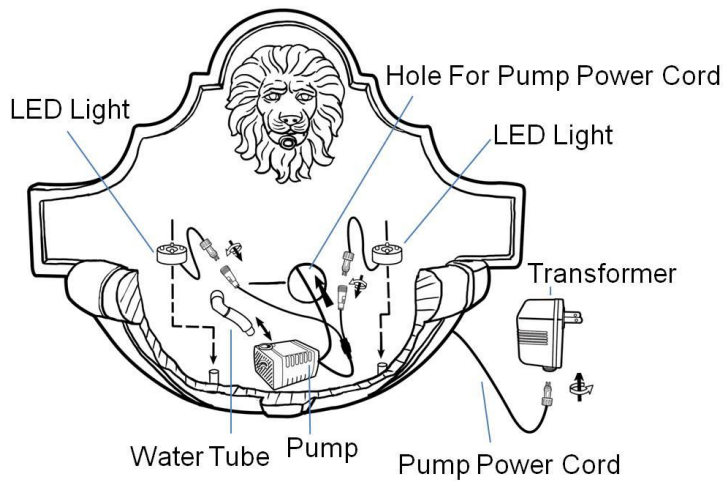

Fig. 1
3. Through the pump power cord out of the hole out and insert the water tube into the pump outlet that is on the top of the pump. Place the pump upright into the fountain body. Connect the LED light cable and fix the LED lights into the knots. Connect the pump with transformer until the parts are secured together (Fig.1)